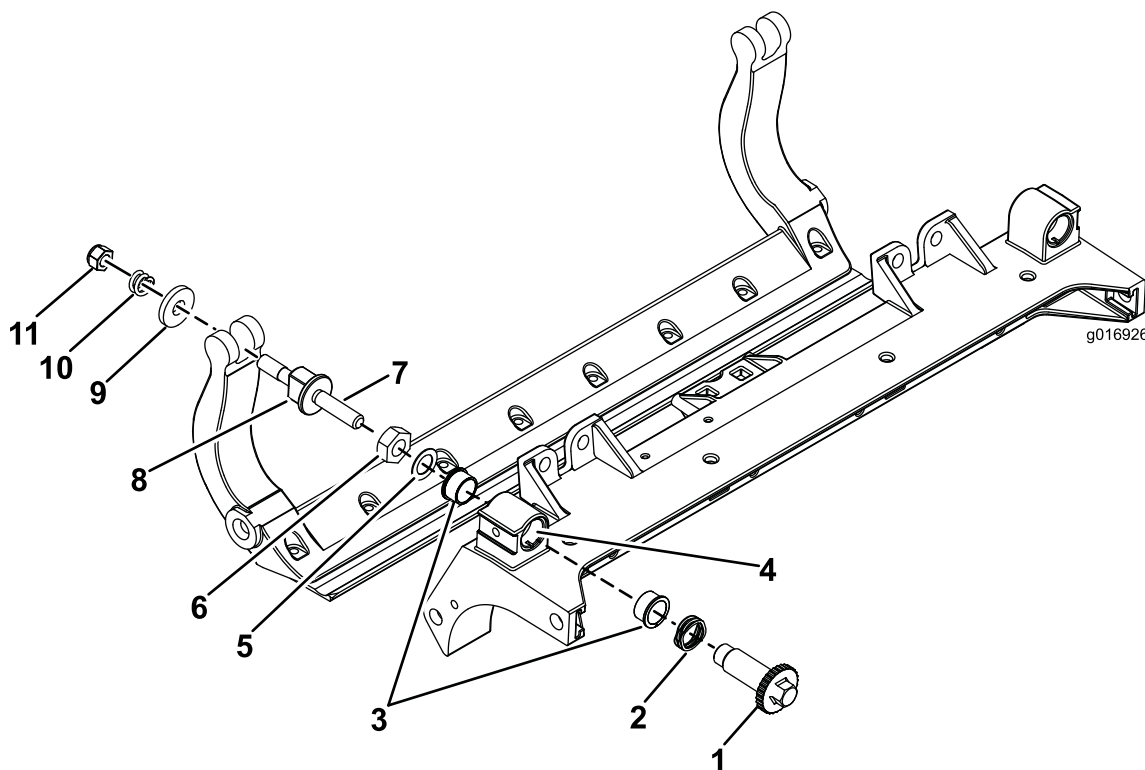

Figure 37
1. Remove all parts (refer to the *Installation Instructions* for the HD DPA Kit and to Figure 37).
2. Apply anti-seize compound to the inside of the bushing area on cutting unit center frame (Figure 37).
3. Align the keys on flange bushings to the slots in the frame and install the bushings (Figure 37).
4. Install a wave washer onto the adjuster shaft and slide the adjuster shaft into the flange bushings in the frame of the cutting unit (Figure 37).
5. Secure the adjuster shaft with a flat washer and locknut (Figure 37).
12. Place a steel washer outside each of the nylon washers (Figure 37).
15. Tighten the nut on each bedbar-adjuster assembly until the compression spring is fully compressed, then loosen the nut 1/2 turn (Figure 37).
- Note:** The washers on the inside may have a gap (Figure 37).